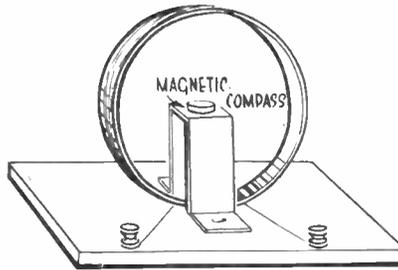

Fig. 11
**W**ITH this sensitive current detector (Fig. 11) you can test your cells and batteries, and you can also check the direction of flow of the electric current, quite apart from investigating the fascinating relationship between electricity and magnetism. In this model an electric current flowing round a circular conductor creates a magnetic field which deflects the small magnetic compass needle, the amount of the deflection being proportional to the strength of the current.